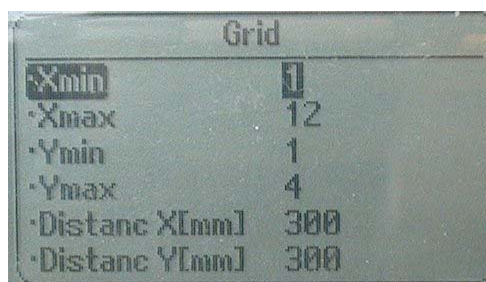

Fig. 7. Grid display
- b. Select Grid and press Enter. Fig. 7.